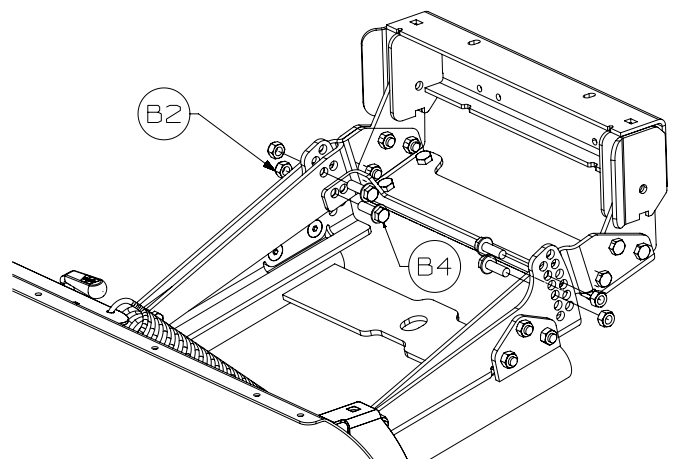

Figure 6
9. With the plow system sitting level, install the M10 fasteners (B4, B2) into the hole pattern which is closest to keeping the plow system sitting level. See Figure 6.